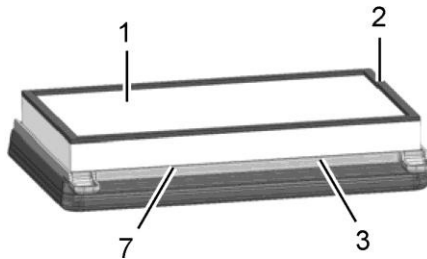

Fig. 13
If the machine is mainly used on carpet, you have to install the lint filter (Fig.13/7).
2. Unscrew the wing bolts (Fig.12/5). Pivot the filter support frame (Fig.13/3) down and remove it.
3. Mount the lint filter (Fig.13/7) between filter and the filter support frame